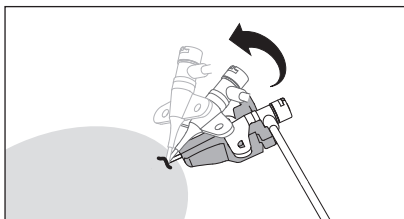

Figure 10
- Gently lift the catheter while holding the juncture hub advancer (see Figure 10).